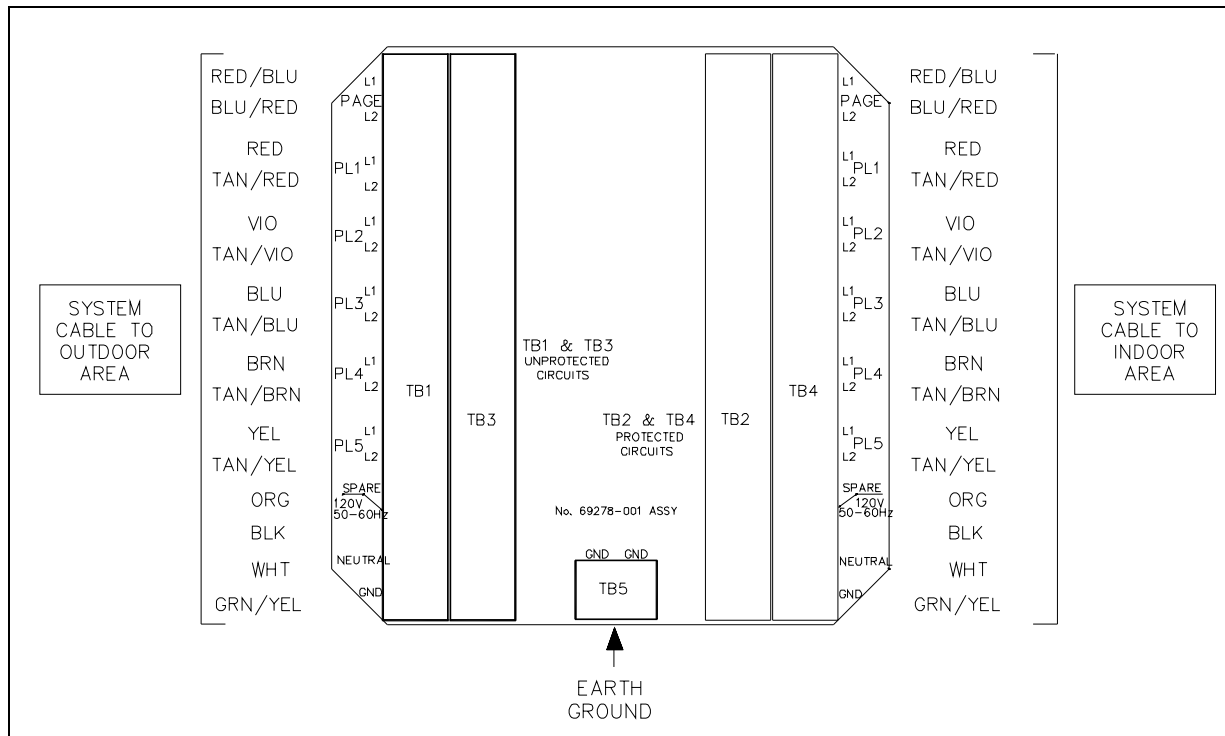

Figure 2. System Cable Wiring Diagram
6. Spade lug the wires and connect them securely to the corresponding terminal blocks by following the wire colors. The color codes that correspond to the GAI-Tronics 60029 Series system cable are shown in Figure 2.